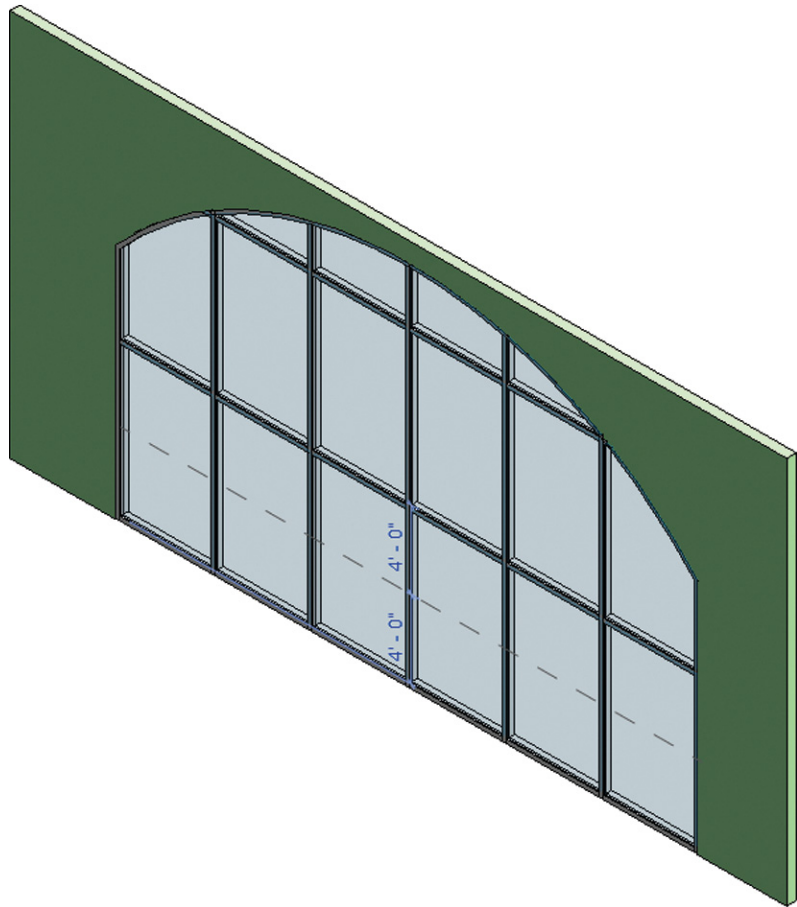

FIGURE 2.26 Adding a new grid and mullion
1. On the Architecture tab in the ribbon, select the Curtain Grid tool. Hover over the curtain-wall segment, as shown in Figure 2.26.